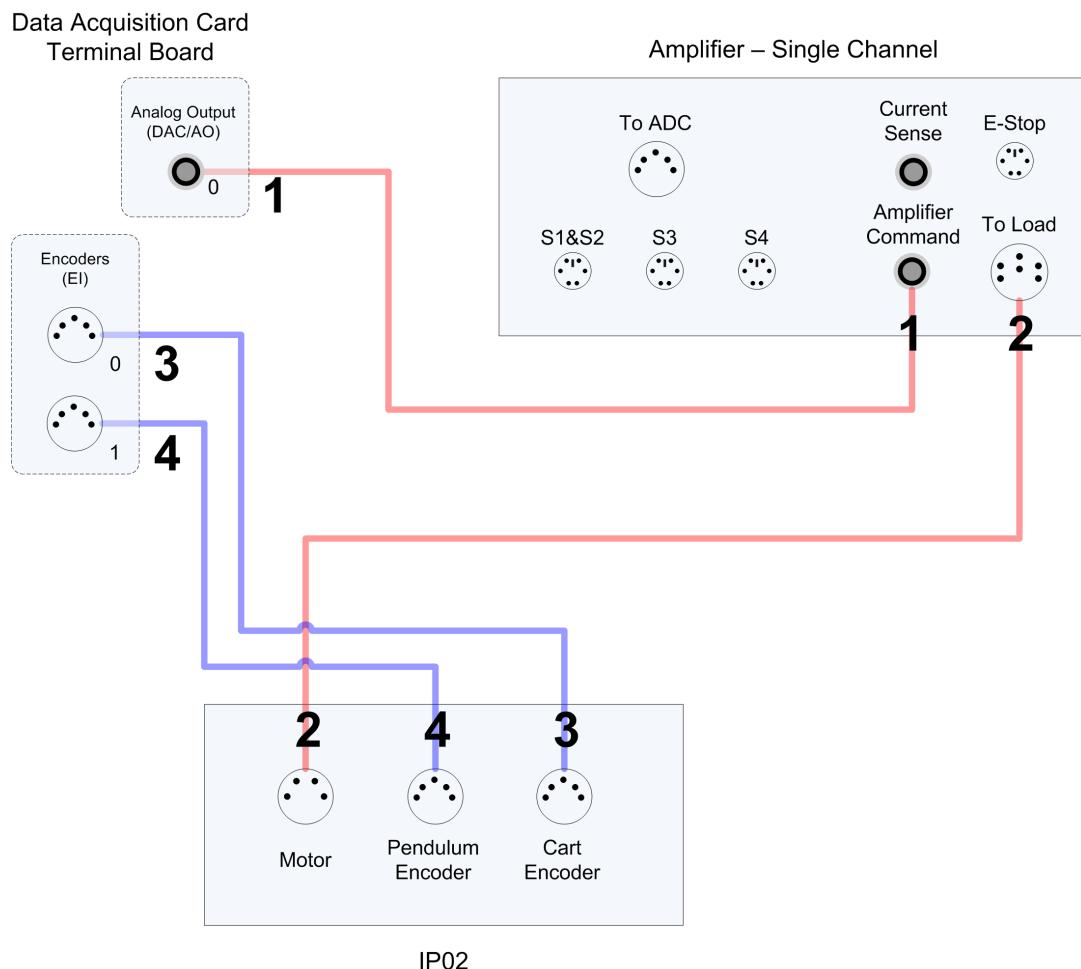

Figure 4.1: Connecting the IP02 to a Single-Channel Amplifier and Two-Channel DAQ
This section describes the typical connections used to connect the IP02 plant to a data-acquisition board and a power amplifier. The connections are described in detail in the procedure below, summarized in Table 4.2, and pictured in Figure 4.1.
**Note:** The wiring diagram shown in Figure 4.1 is using a generic data acquisition device. The same connections can be applied for any data-acquisition system that has at least 1x analog output, and 2x encoder inputs.
3. Connect one end of the 2xRCA to 2xRCA cable from the Analog Output Channel #0 on the terminal board to the *Amplifier Command* connector on the amplifier, i.e. use both white or both red RCA connectors. See cable #1 shown in Figure 4.1. This carries the attenuated motor voltage control signal,  $V_m/K_a$ , where  $K_a$  is the amplifier gain.
4. Connect the 4-pin-stereo-DIN to 6-pin-stereo-DIN that is labeled from *To Load* on the amplifier to the *Motor* connector on the IP02. See connection #2 shown in Figure 4.1. The cable transmits the amplified voltage that is applied to the SRV02 motor and is denoted  $V_m$ .
5. Connect the 5-pin-stereo-DIN to 5-pin-stereo-DIN cable from the *Cart Encoder* connector on the IP02 panel to Encoder Input # 0 on the terminal board, as depicted by connection #3 in Figure 4.1. This carries the cart position measurement.
6. Connect the 5-pin-stereo-DIN to 5-pin-stereo-DIN cable from the *Pendulum Encoder* connector on the IP02 panel to Encoder Input # 1 on the terminal board, as depicted by connection #4 in Figure 4.1. This carries the pendulum angle measurement.